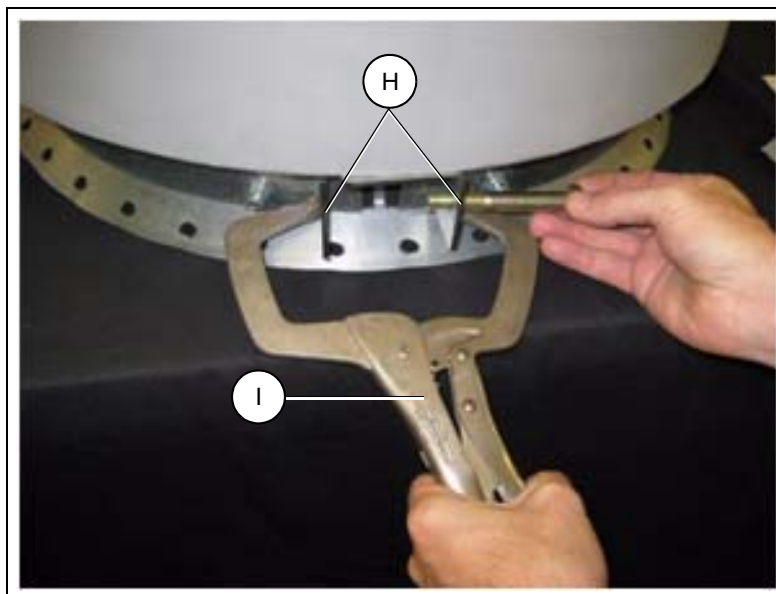
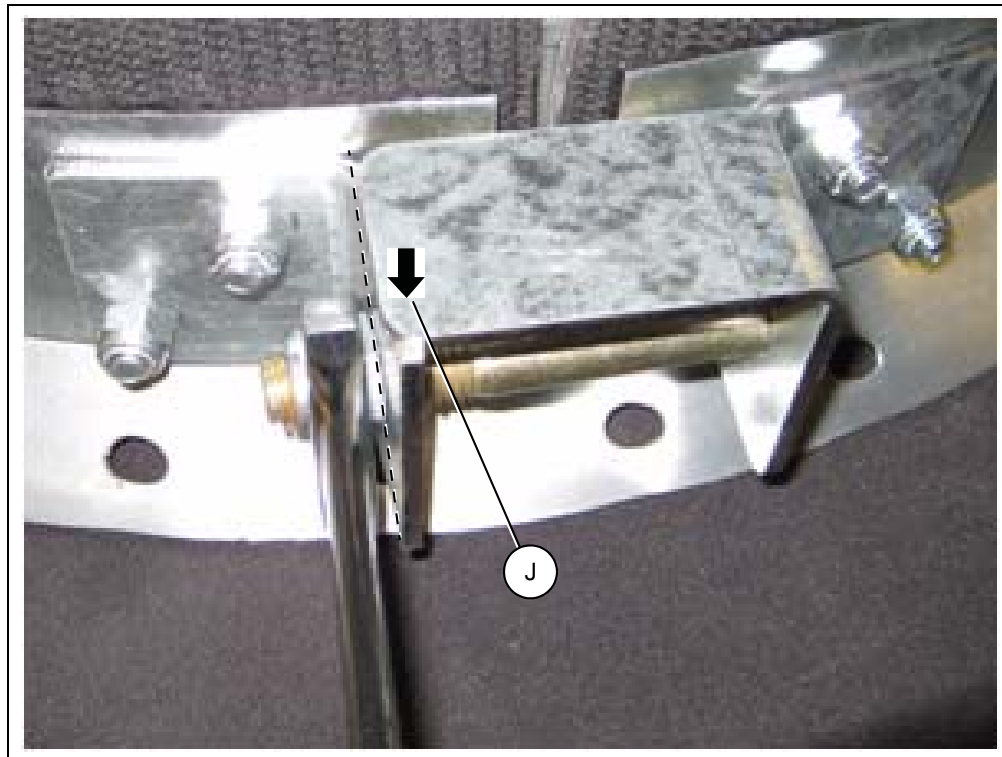

Figure 11C Mount Lid to Peak Ring
Figure 11E Tighten Bolts Until Flush with Bracket
2. Place the lid assembly over the existing peak ring collar and rotate lid assembly such that the lever arm and spring hinge line up with the roof eave bracket, See Figure 11A on Page 57. Use a clamp to pull the mounting brackets together. Slide the 3/8" carriage bolt supplied through the mounting bracket and loosely fasten with nut, See Figure 11C. Remove clamp and tighten the bolt with 9/16" ratchet, ensuring that the vertical flange tightens past the left edge of the top, horizontal flange, See Figure 11E on Page 59.